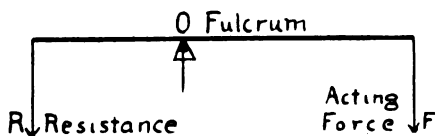

FIG. 255.—SIMPLE LEVER
**282. The Lever.** In the lever in its simplest form (Fig. 255) we find a force ( $F$ ) acting upon the machine, which in turn acts